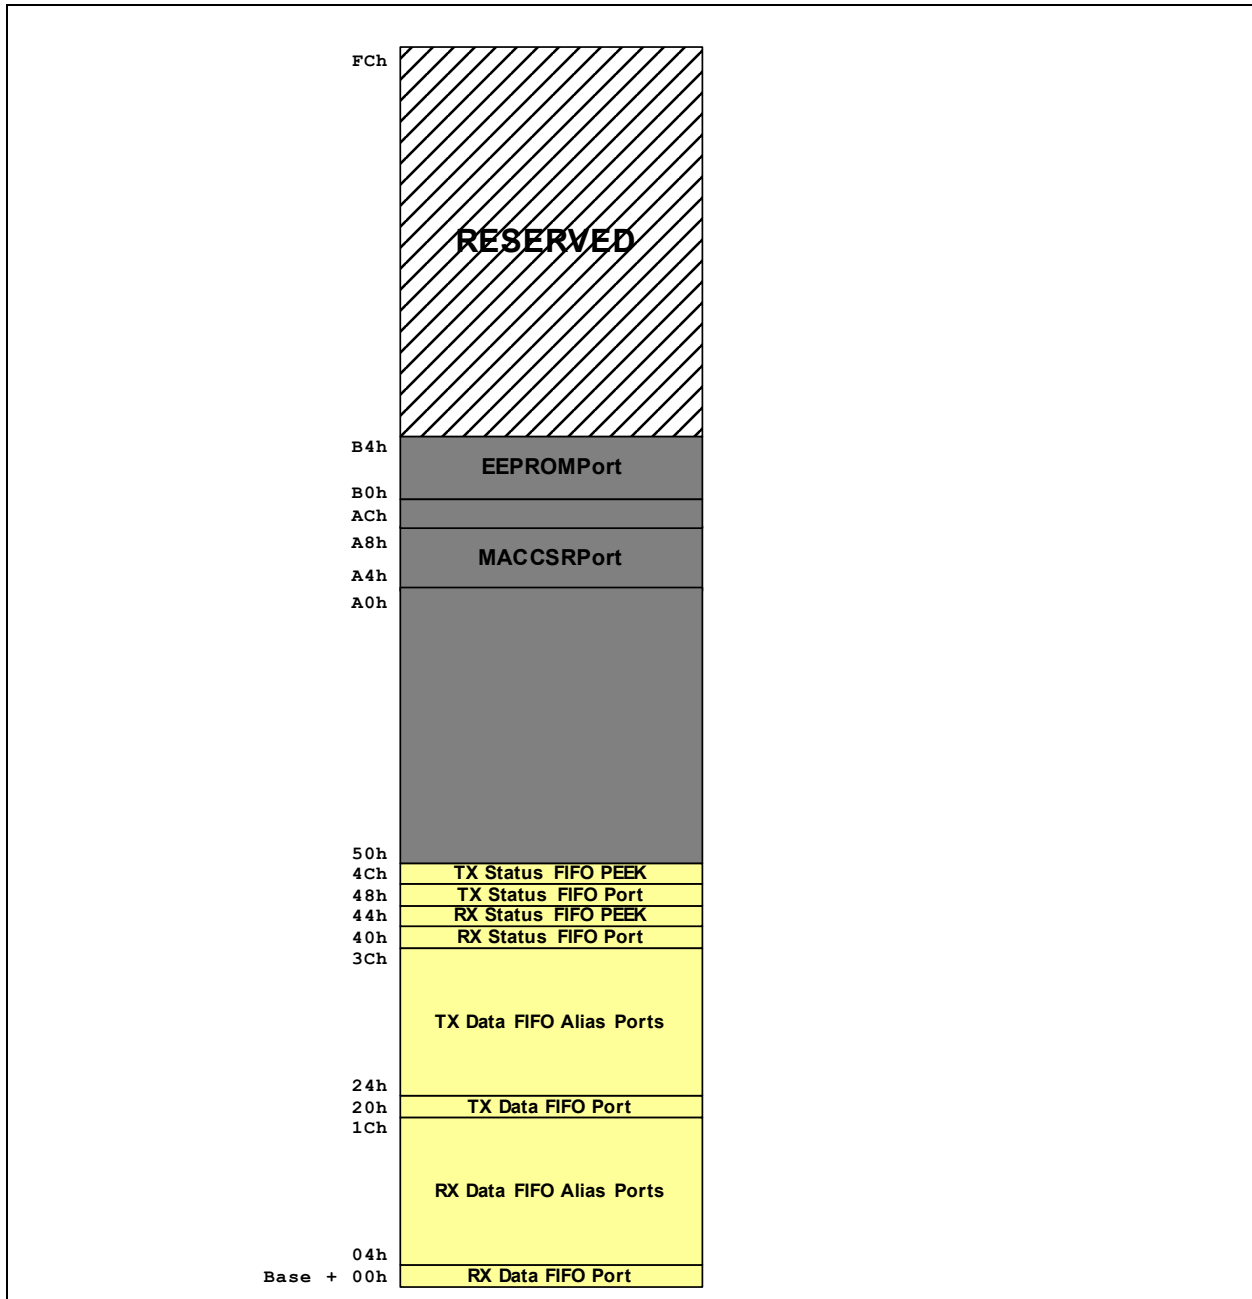

Figure 5.1 Memory Map
**Note:** The LAN9217 host bus interface supports 16-bit bus transfers; internally, all data paths are 32-bits wide. Figure 5.1 describes the memory map with respect to pairs of atomic 16-bit transactions.